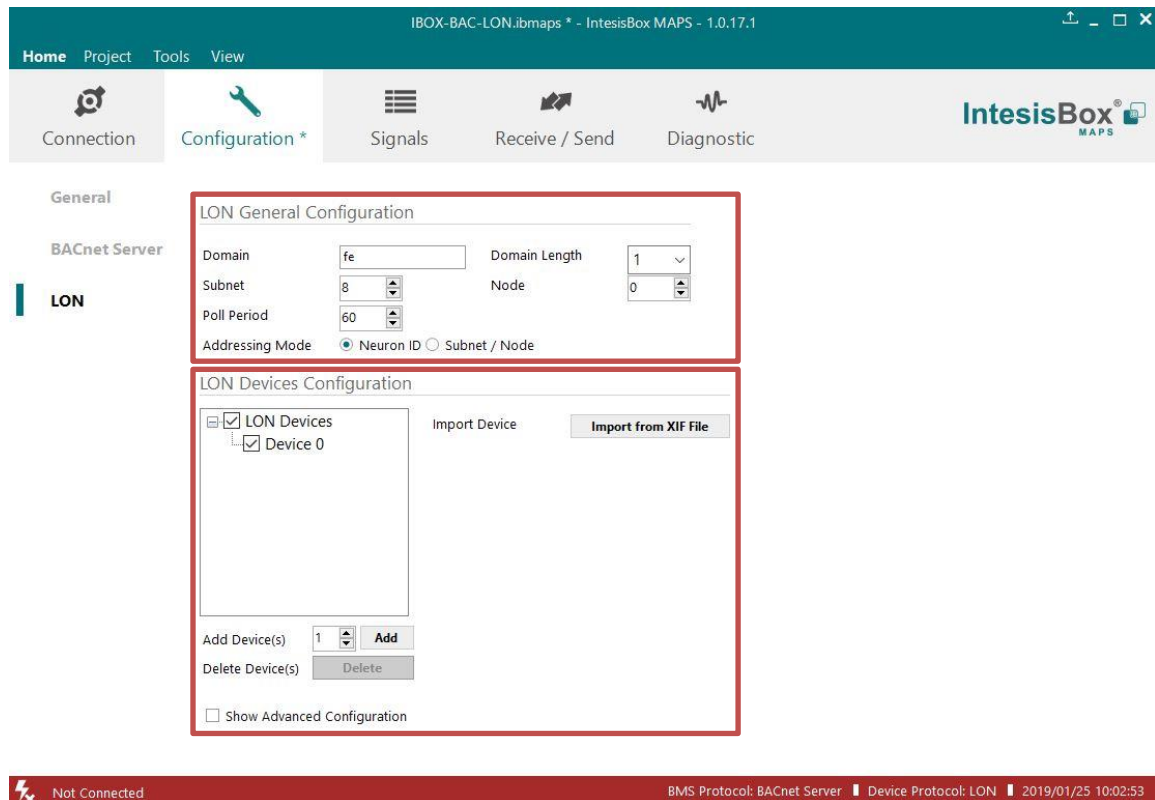

Figure 10.1 Intesis MAPS Configuration tab
- **Import from XIF file:** A new dialog will open providing the possibility of importing a LonWorks XIF file to get access to all the variables of the related LON device. (see Figure 10.1).